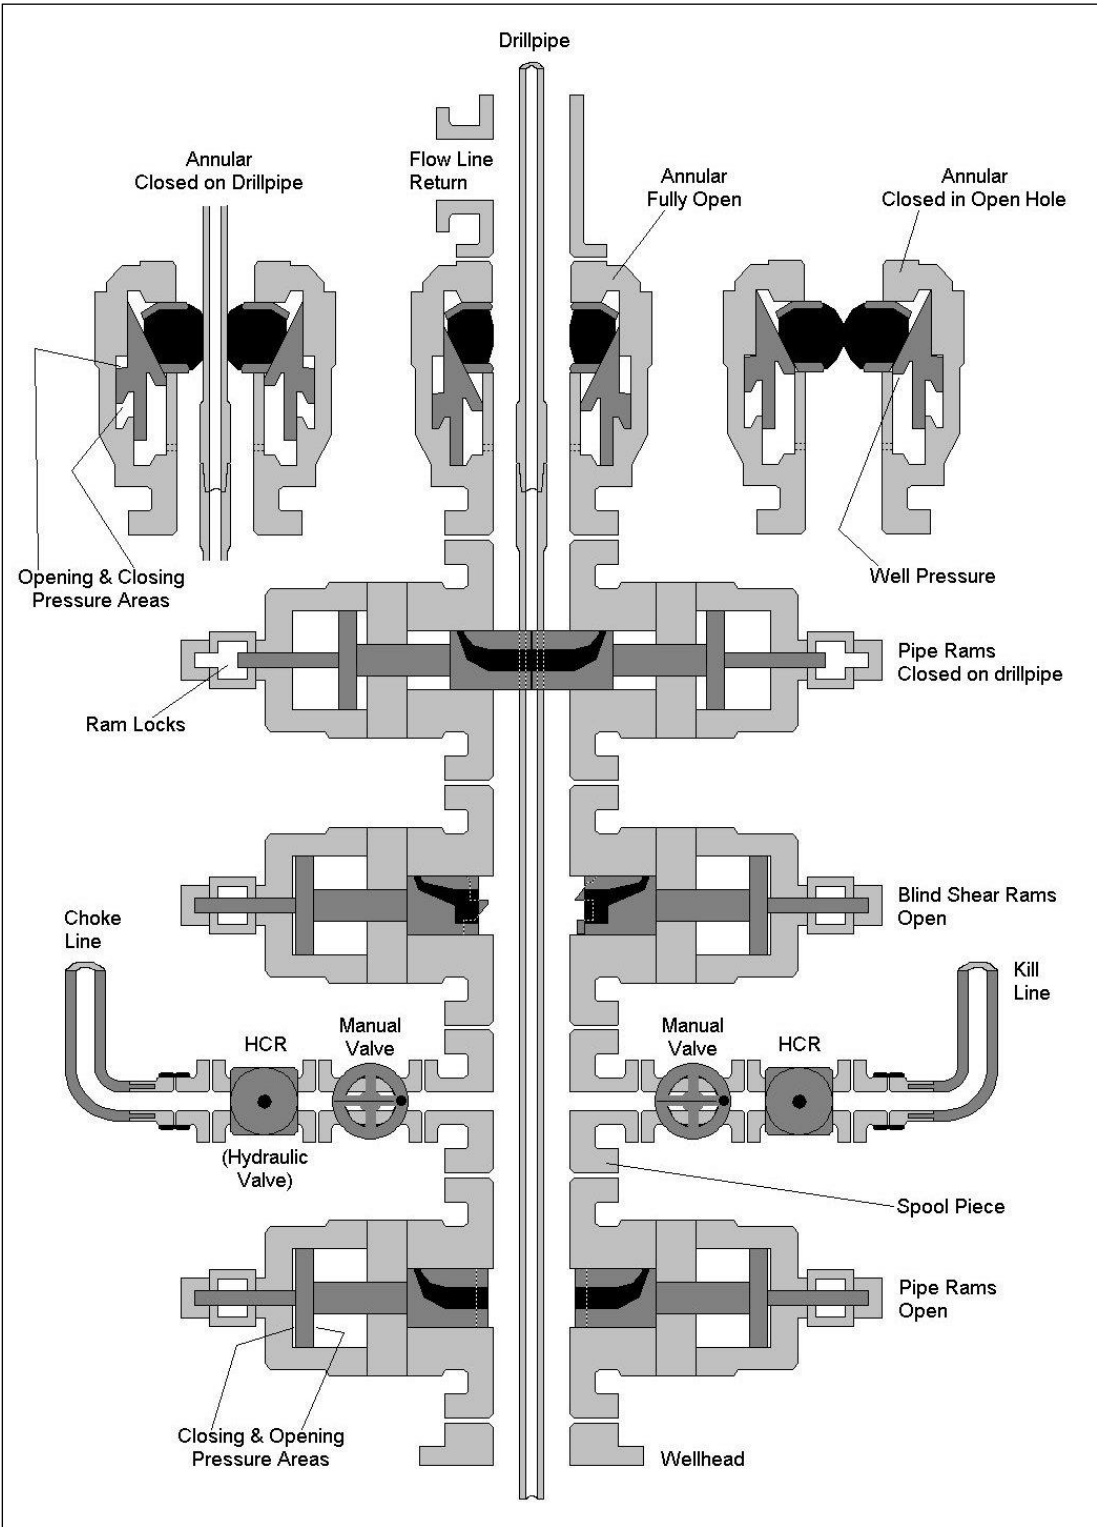

Figure 2. Conventional BOP Stack.
1. Blow out preventers - Usually mounted in a stack including annular and ram type preventers. Figure 2 is an example of a BOP stack arrangement of single ram units and annular unit for surface use, showing operation of different components. Figure 3 shows two different makes of annular BOP with varying sealing element design. Principles of operation are essentially the same in both cases; it is the method of deformation of the element that is different.
2. Drilling Spool (Figure 2) for attachment of high pressure choke and kill lines, for circulation with the BOP closed.
3. Casing head (Figure 2) - This is welded to the first surface casing and it provides support and pressure seal for the BOP stack and future casing strings.